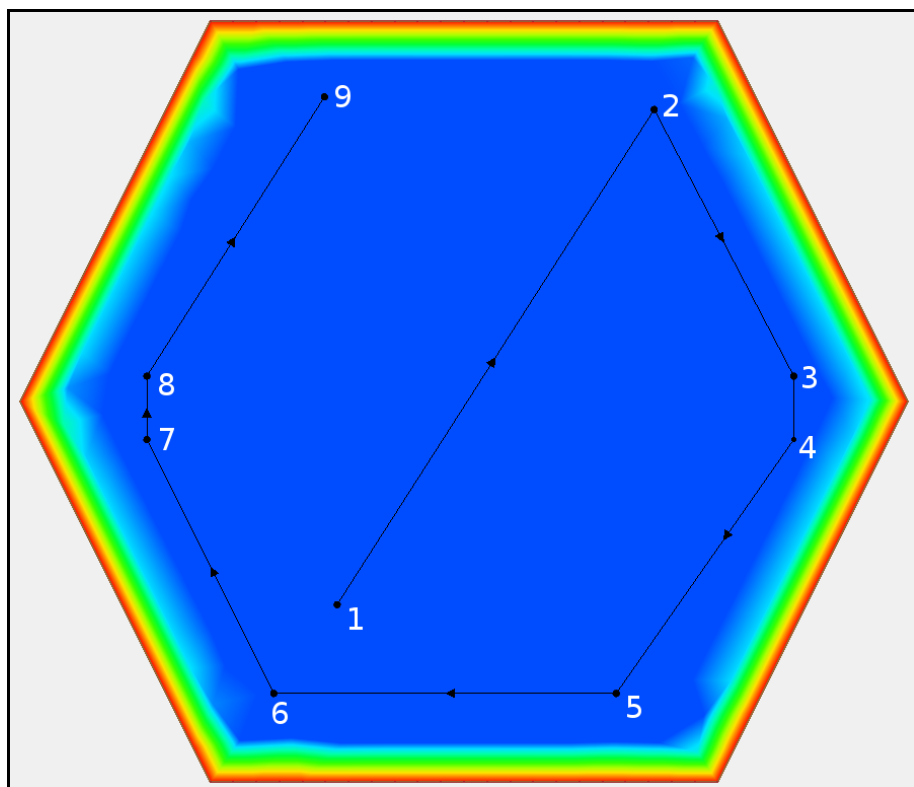

Figure 5 Nodes and vertices numbered
- Using the **Select Feature Vertex**  tool, select the vertex closest to the coordinates in the table and change the coordinates in the Edit Window for that vertex according to the table. See Figure 5 for the number of each node or vertex.